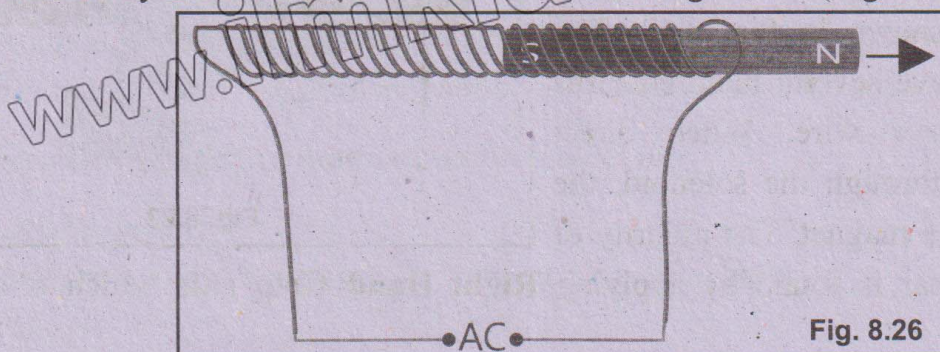

Fig. 8.26
When an alternating current (AC) is flowing through a long solenoid, a magnet moved out slowly from inside of the solenoid is demagnetised (Fig. 8.26).